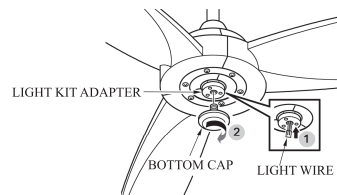

FIG.13
2. Insert the wire plug into the light kit adapter and twist the bottom cap into the light kit adapter. (see Fig.13)